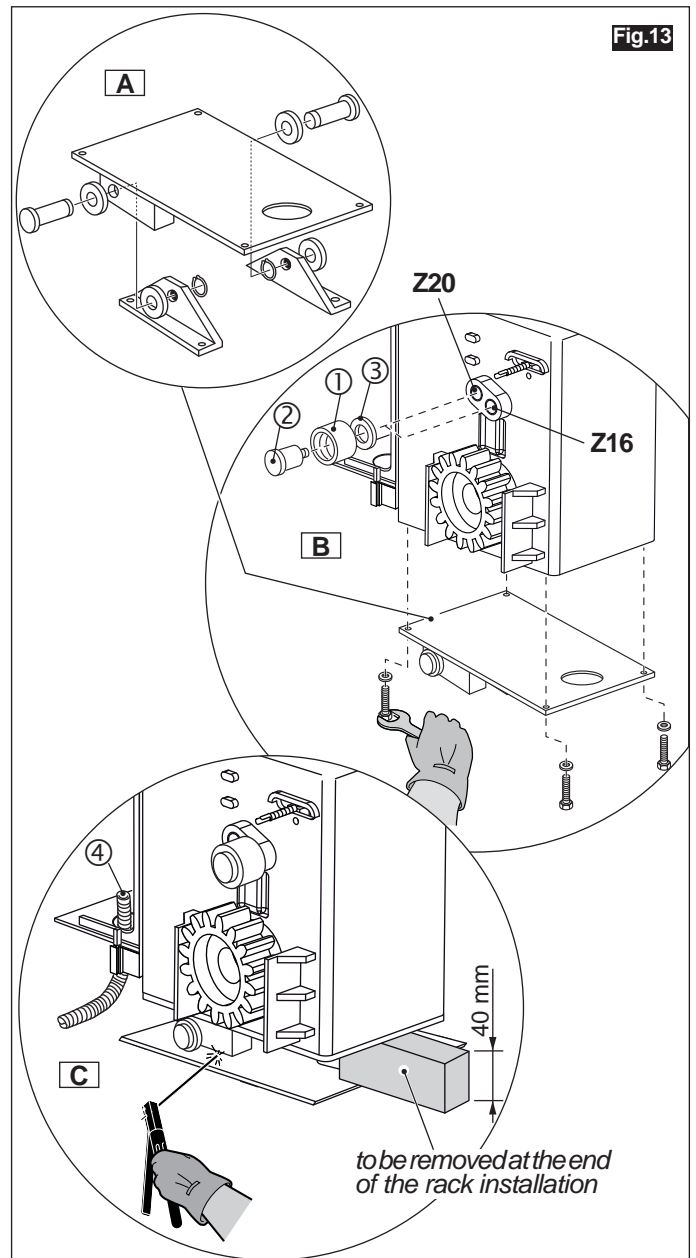

Fig.13
- Assemble the plate and the two brackets of the pivoting kit, fixing every bracket by one pin with two washers and one seeger ring (**Fig.13-part.A**).
- Fit the counter roller (**Fig.13-ref.1**) in the relevant hole depending on the type of pinion used (**Z16** or **Z20**) (**Part.B**) and fix it by the pin with washer (**ref.2-3**).
- Assemble the pivoting plate under the base of the operator by means of the screws with washer (**Fig.13-part.B**). **POSITION the plate correctly as illustrated.**
- Position the operator on the foundation plate, passing the cables through the appropriate hole (**ref.4-Part.C**).
- Weld the two pivoting plate supporting brackets on the foundation plate (**Fig.13-part.C**). **IMPORTANT:** *it is advisable to make a preliminary weld with just two spots and then complete welding ONLY AFTER the rack has been fitted and CHECKED.*